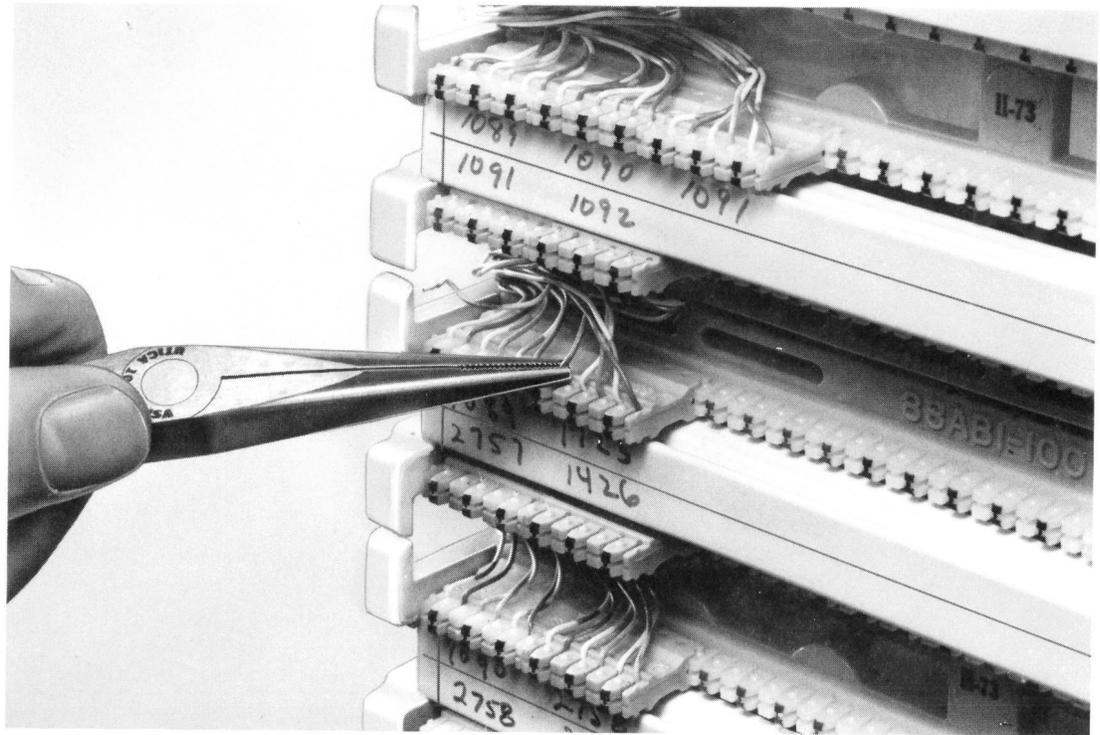

Fig. 9—Removing Cross-Connecting Wire
3.01 When it is necessary to remove a cross-connecting wire from a connecting block, use long-nose pliers, as illustrated in Fig. 9.